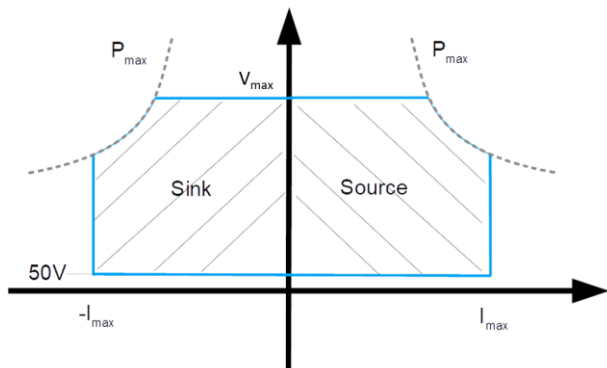

Figure 3. Max. power of 50 V to V_{max} (2 quadrant system).
- The default current and voltage ranges are shown in Figure 3 (2 quadrant system)